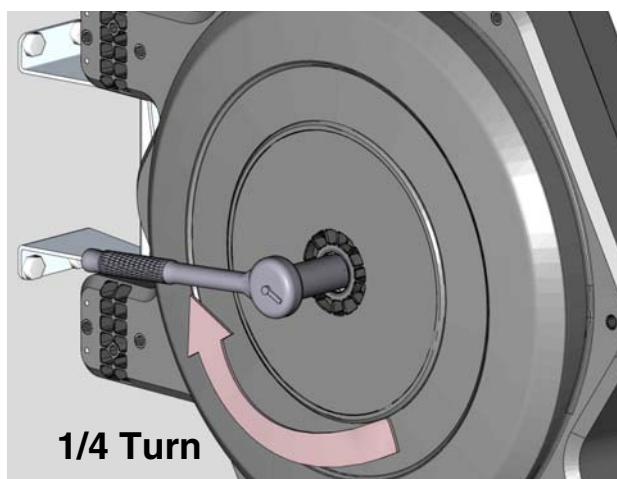

FIG. 27
- a. Insert socket over spring adjuster. Turn adjuster 1/4 turn clockwise (FIG. 27).